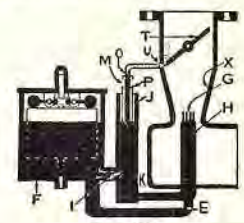

Fig. 20 A
Fig. 20 shows carburetor at rest with throttle (T) closed, and shows the gasoline at the same level in the float chamber (F), well (J), and nozzles (G) and (H).